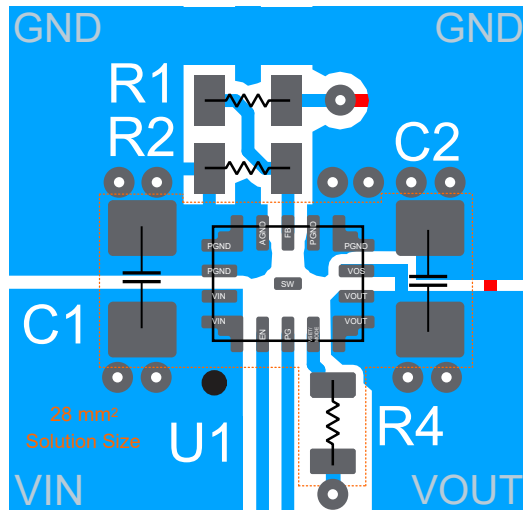
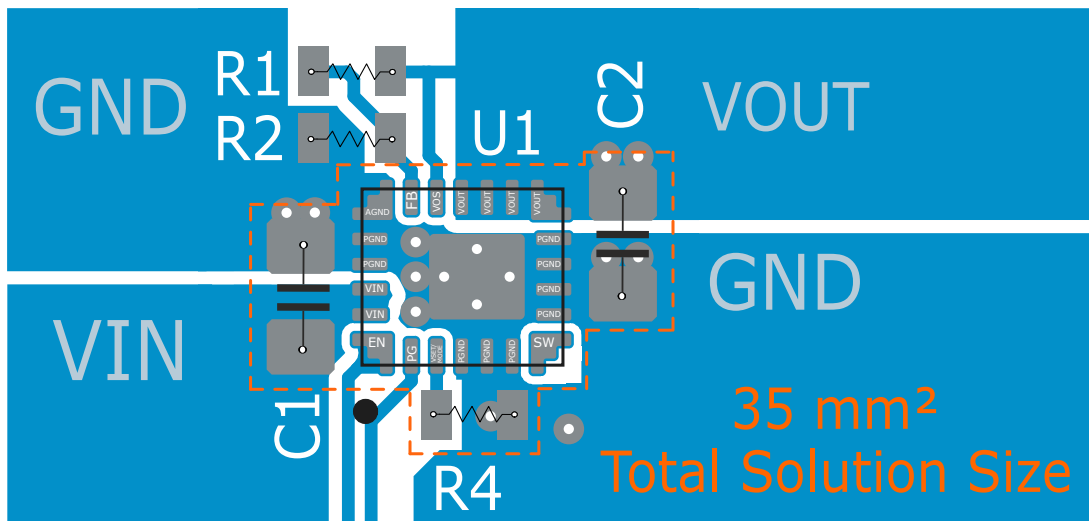

图 8-42. Layout Example RCF package
图 8-43. Layout Example RDJ and RDM package
- Refer to Figure 8-42 and Figure 8-43 for an example of component placement, routing, and thermal design.